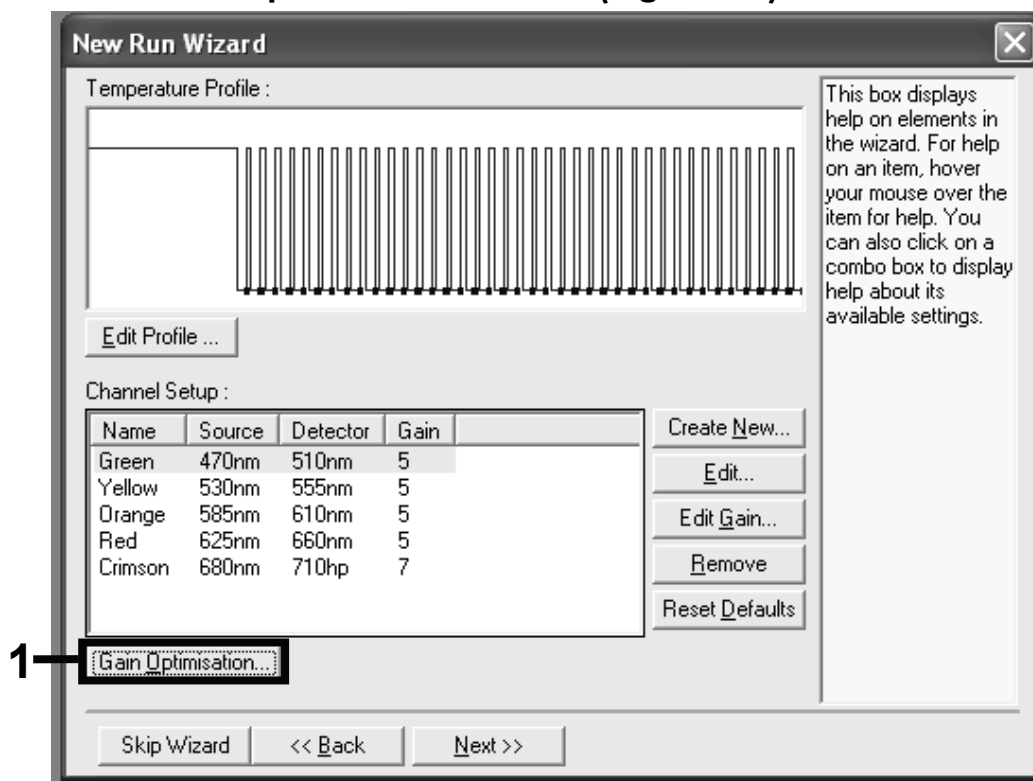

Figure 10. Gain optimisation.
Adjusting the fluorescence channels	Figures 10, 11, 12, 13
19. Click the “Gain Optimisation” button (Figure 10).